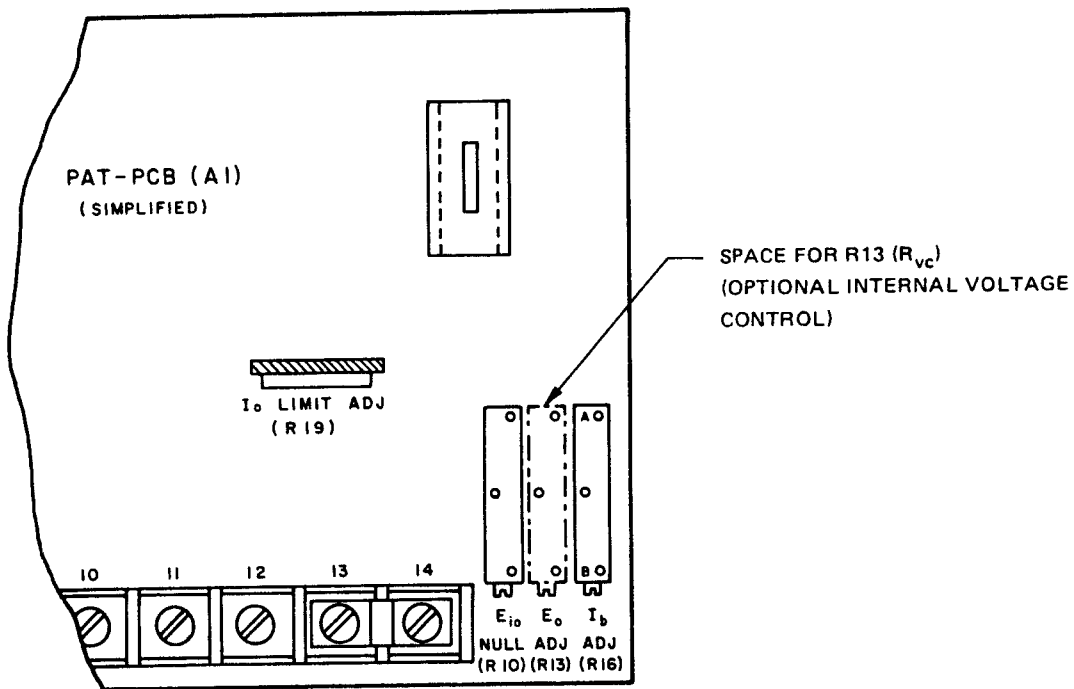

FIG. 5-2 INSTALLATION OF OPTIONAL CONTROLS.
5-6 CURRENT LIMITING CONTROL ADJUSTMENT (Refer to FIG. 5-2) A single-turn potentiometer (R19) conveniently located on the topside of the printed circuit board serves as an adjustment for limiting the output current through the range of 5% to 105% of its maximum rated value. It is factory-adjusted for approximately 5% above the maximum rated output current and has to be reset only if a component should have to be replaced or if a lower limit than the preset value is desired.
5-7 INSTALLATION AND ADJUSTMENT OF THE (OPTIONAL) VOLTAGE CONTROL RHEOSTAT (R_{vc}): REFER TO FIG. 5-2.
- a) Refer to FIG. 5-2. The voltage control resistance (R_{vc}) may be installed internally in the space on the printed circuit board as shown.